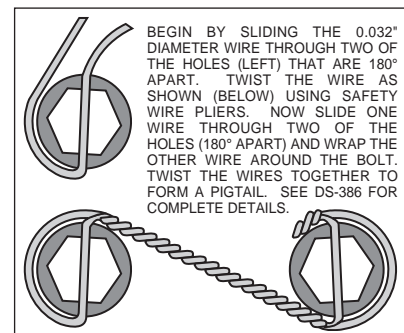

Figure 3. Safety Wire Diagram
- With the larger I.D. side of the rotor (4) facing away from the hat (5), bolt the rotor (4) to the hat (5) through the backside of the rotor using washers (6) and bolts (7). Using an alternating sequence, apply red *Loctite*® 271 to the threads and torque bolts to 155 **in-lb**. For an added measure of security, the bolts may be safety wired using standard 0.032 inch diameter stainless steel safety wire as shown in Figure 3. Please refer to Wilwood's data sheet DS-386 (available at www.wilwood.com/Pdf/DataSheets/ds386.pdf) for complete safety wire installation instructions.
- Install one washer (8) over each pre-installed stud (9) on the radial mount bracket (1). Slide the caliper (10) in place over the studs and rotors and install the washer (12) and lock nut (11) to hold the caliper in place. The caliper bleed screws should be pointing up. Snug the lock nuts (11) and check that the rotor (4) is centered in the caliper (10). Add or subtract .03" shims (3) as necessary between the caliper mounting bracket (1) and the spindle to center the caliper (10).
- Remove the caliper center bridge pad retainer bolt, nut, and tube from the caliper. Slide the brake pads (13) into place. They should install easily without interference. Check that the outside radius of the brake pad is aligned with the outside diameter radius of the rotor face. Add or subtract shims (8) between the caliper and mount bracket to gain the proper alignment. Reinstall the center bridge pad retainer tube, bolt, and lock nut. The locknut should be snug without play in the bolt or tube. Be cautious not to over tighten.
- Once all clearances have been checked, remove the wheel, caliper, hat, and rotor from the spindle and hub. Secure the caliper mounting bracket (1) to the spindle using red *Loctite*® 271. Torque the bolts to 60 ft-lbs. Reinstall the hat and rotor assembly and again use several wheel bolts to hold it in place. Lubricate caliper mounting studs and nuts with lightweight oil, reinstall the caliper, torque the caliper nuts (11) to 30 ft-lbs.